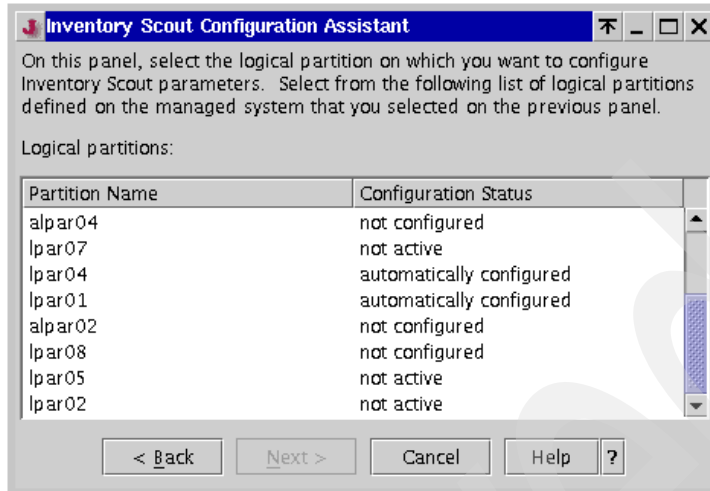

Figure 11-5 Inventory Scout Configuration Assistant (select partitions)
4. A list of partitions, along with each partition's configuration status, is displayed as shown in Figure 11-5 on page 252.